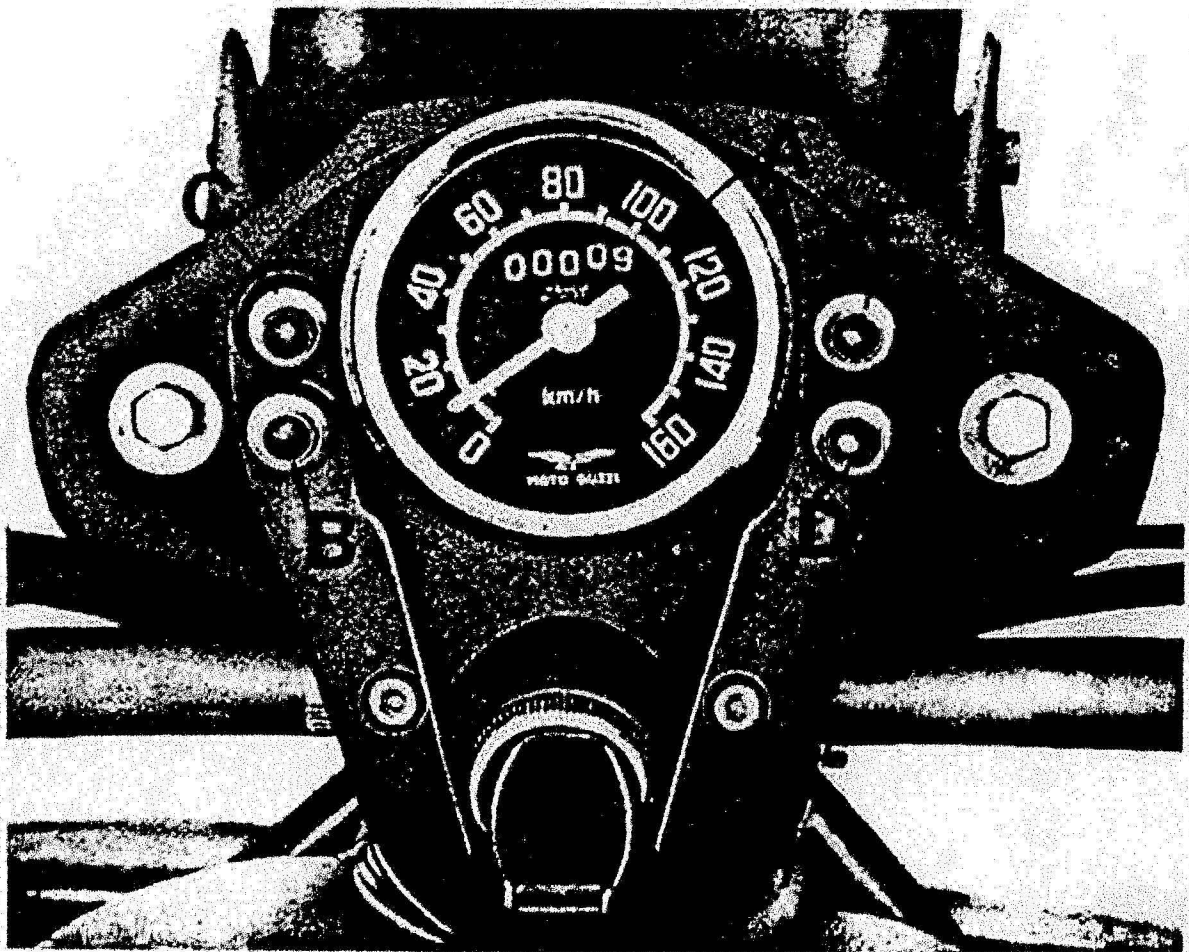

Fig. 7
- 1) Instrument panel including (fig. 7):